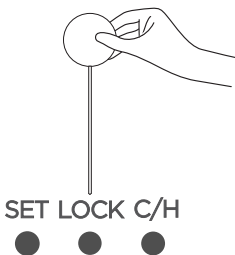

Figure 3.17
1) Press ^{LOCK} ● to lock the buttons (see Figure 3.17) and the display will show the lock icon “”.